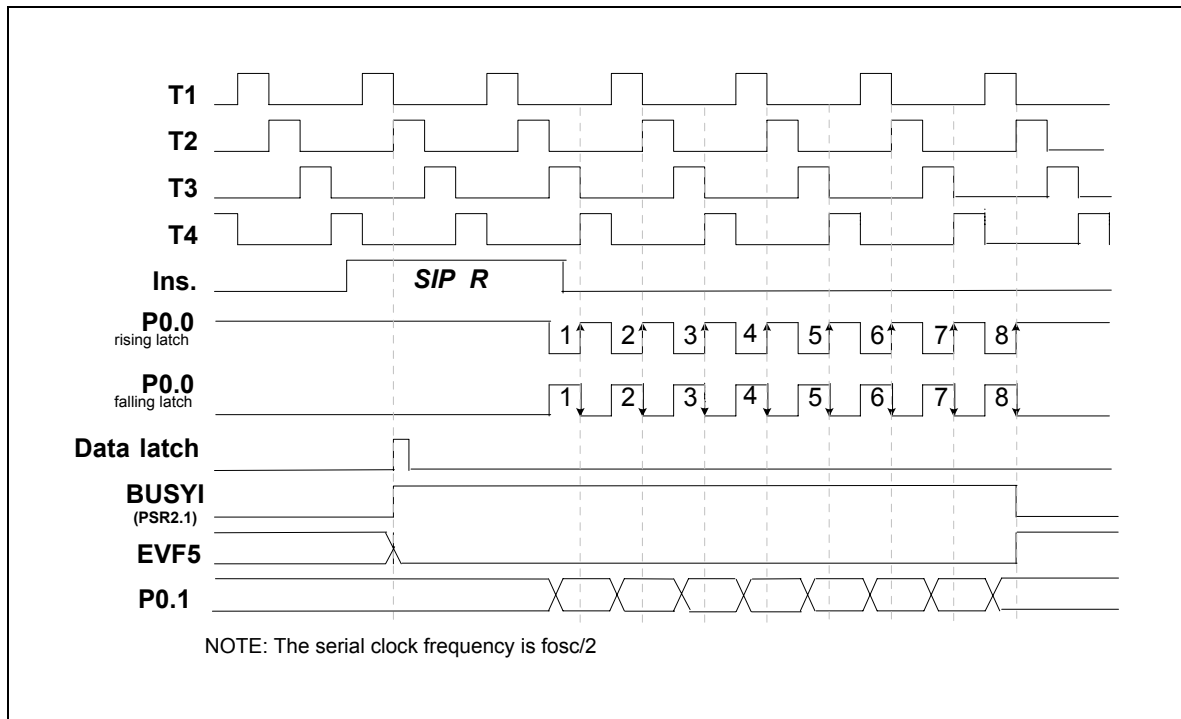

Figure 5-12 Timing of the Serial Input Function (SIP R)
- (1) **When in the first time the SIP R instruction is executed, the data will be loaded to the ACC and RAM from the serial input buffer. But this data is not meaningful, it is used to enable serial port.** There are two methods to get the serial data, one is interrupt and the other is polling. When enable the serial input, the bit 1 of port status register 2 (PSR2) will automatically be set to "1" (BUSY_I = 1). Then the P0.0 pin will send out 8 clocks or accept 8 clocks from external device and the data from the P0.1 pin will be loaded to SIB buffer at the rising or falling edge of the P0.0 pin. After the 8 clocks have been sent, BUSY_I will be reset to "0" and EVF.5 will be set to "1." At this time, if IEF.5 has been set (IEF.5 = 1), an interrupt is executed then the SIP R instruction can get the correct data from the serial input buffer (SIB), **low nibble of SIB moves to ACC register and the high nibble moves to RAM**; if HEF.5 has been set (HEF.5 = 1), the hold state is terminated. The polling method is to check the status of PSR2.1 (BUSY_I) to know whether the serial input process is completed or not. If a serial input process is not completed, but the SIP R instruction is executed again, the data will be lost. The timing is shown in Figure 5-12.